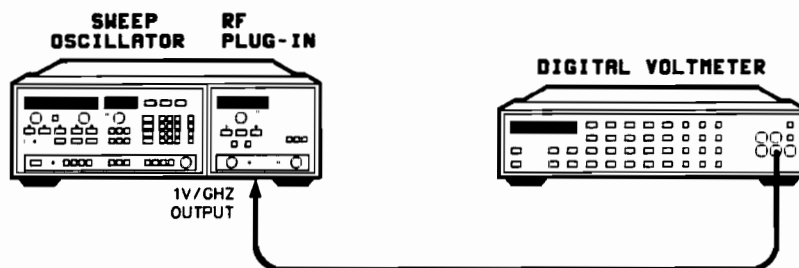

Figure 5-27. Frequency Reference 1 V/GHz Output Test Setup
1. Connect the equipment as shown in Figure 5-27 with the DVM connected to the rear panel 1 V/GHz frequency reference connector, J4. Allow the equipment to warm up for 1 hour.